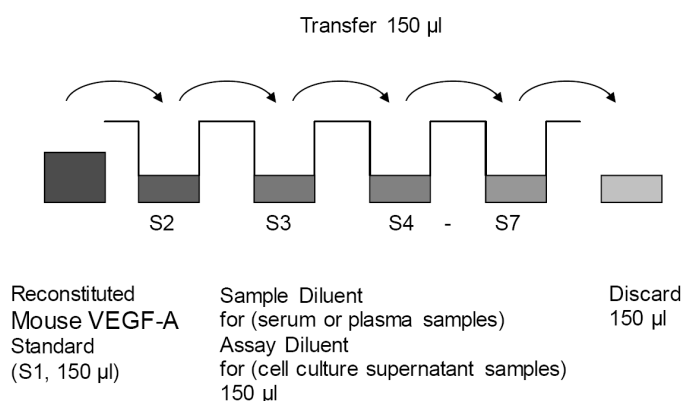

Fig. 7 Dilute standards - tubes
5. Repeat serial dilutions 4 more times thus creating the points of the standard curve (see Figure 7).